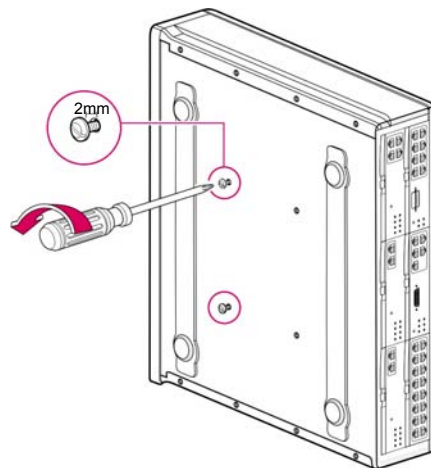

Figure 2.10 Wall Installation (4)
- 5) There are two screws in two of the four holes at the bottom of OfficeServ 7200 cabinet as shown below. To install on the wall, loosen the two screws to approximately 2mm as shown in figure 2.10.